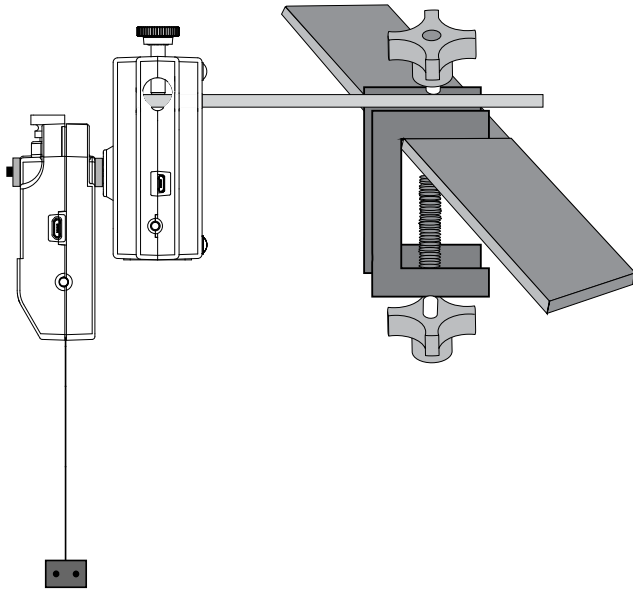

Figure 2. Mounting the connected sensors to a table.
7. Use a Large Table Clamp (ME-9472) and metal rod to mount the rotary motion sensor securely to the edge of the table, as shown in Figure 2.